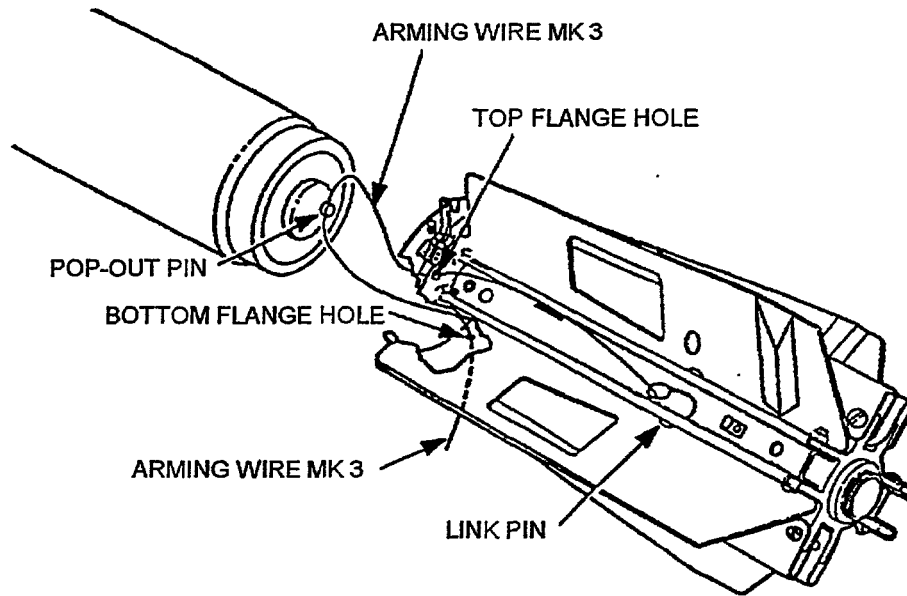

Figure 5-3A. Arming Wire and Fin BSU-86/8 or BSU-86A/B Removal
- Cut Arming Wire Mk 3 flush with top and bottom of fin and discard arming wire (Figure 5-3A).